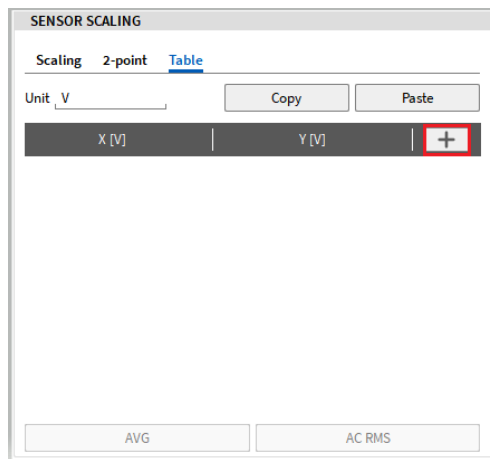

Figure 5-15: Table scaling – add point to specify x- and y-value
- Individual points to specify x- and y-values can be added by clicking on the + button (see Figure 5-15)